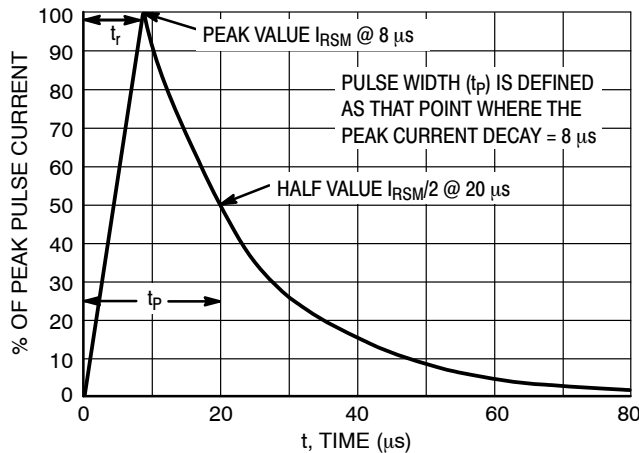

Figure 7. 8 X 20 μs Pulse Waveform
- Surge current waveforms per Figure 7.